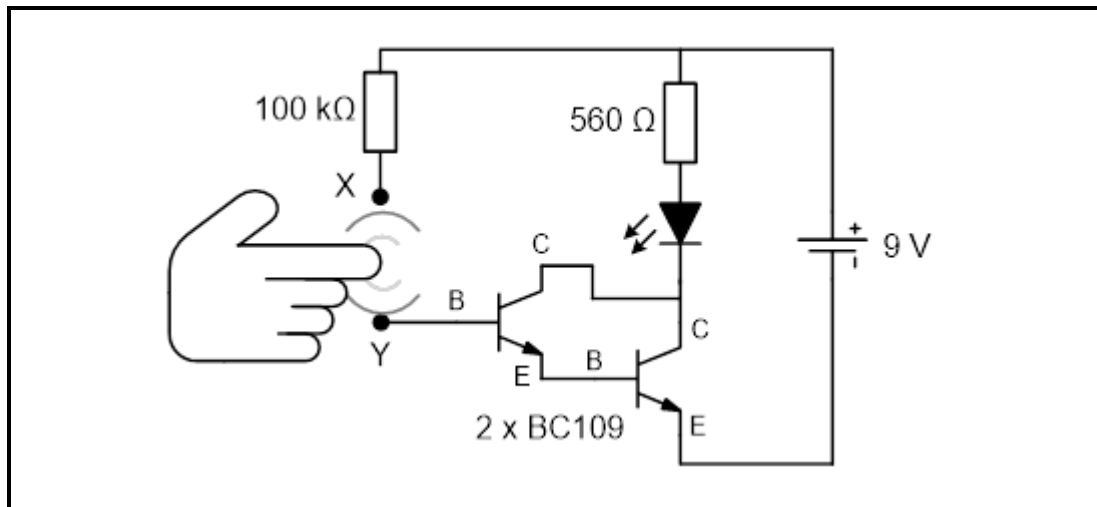

FIGURE 4.2.6: DARLINGTON PAIR
- (c) Replace the single transistor with two identical BC109 transistors, as indicated in FIGURE 4.2.6.